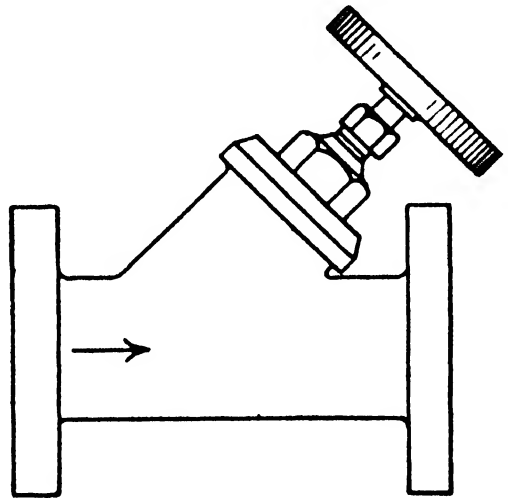

FIG. 119.
**The Y Valve.**—This valve is of the ordinary shut-off design, but is shaped as the letter Y. There are occasions and situations where the operation of the standard design of valve is impossible, or at least inconvenient; these are where the Y valves function. The style is illustrated in Fig. 119.